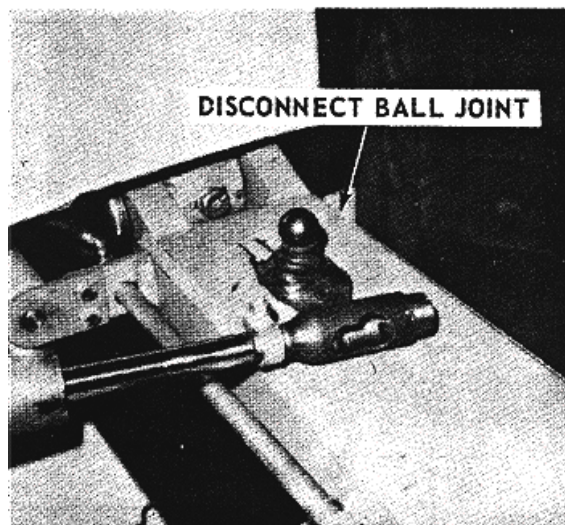

FIGURE 9-116.
a. Remove scraper bar and coco mat assembly, water spray manifold and disconnect steering cylinder ball joint assembly (see figure 9-116).